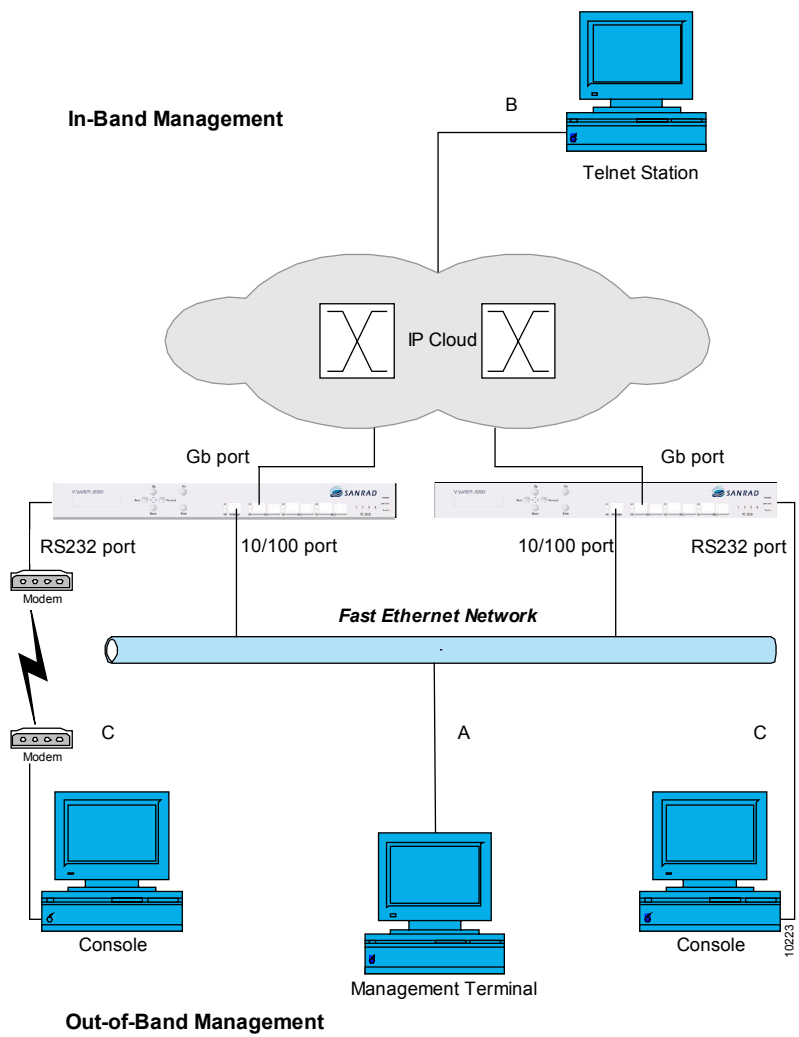

Figure 25. V-Switch Management Options
- **Out-of-band:** The management terminal connects to the V-Switch's dedicated 10/100 management port via a fast Ethernet network to pass management commands to the V-Switch in a Telnet session. This is the most secure type of management connection for the V-Switch. Please refer to A in Figure 25, page 47. The management IP address entered in the initialization command is assigned to the 10/100 management port by default for out-of-band management.
- **In-band:** The management terminal connects to the V-Switch's first 1Gb Ethernet network port, Eth1. This type of connection uses the same Ethernet network to pass management commands to the V-Switch in a Telnet session as the hosts use for accessing storage data. Please refer to B in Figure 25, page 47. You can configure the management IP address to Eth1 via the LCD or an initial out-of-band connection using the CLI command `init`. If the management port is not set to Eth1 during initialization, you will need the CLI command `device set` to set the management port to Eth1 for in-band management.
- **RS232:** The management terminal connects to the V-Switch's RS232 console port to pass management commands to the V-Switch in a direct connection. Please refer to C in Figure 25, page 47. The management IP address mandatory in the initialization command and assigned to the 10/100 management port by default for out-of-band management, will go unused in actuality.